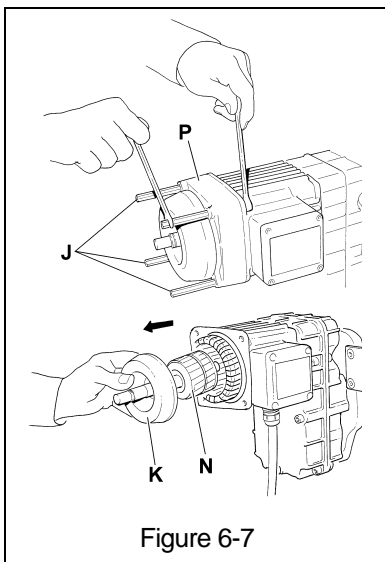

Figure 6-7
- 2) Unscrew and remove the Hexagonal Spacers (J) and Nuts then remove the Motor Cover (P). Carefully, so as not to damage the rotor and/or the winding, slide the Rotor (N) with Brake Block (K) out of the motor completely (see Figure 6-7).